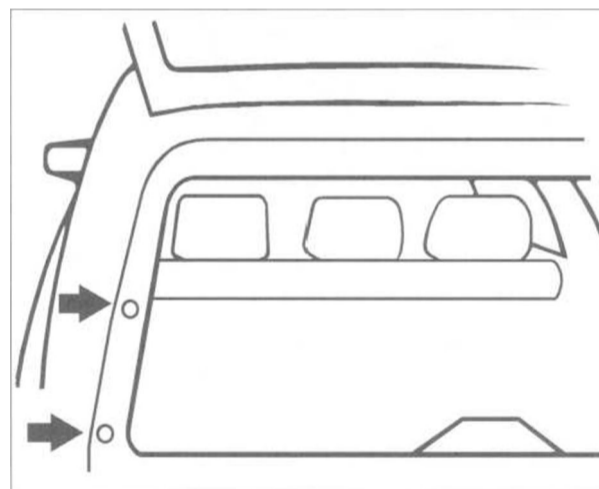

Fig. 9. Rubber pads (arrows) on trim cover. Pry out pads and remove screws.
- Remove rubber concealing pads on left and right sides of trim cover. Remove screws from below pads. See Fig. 9.